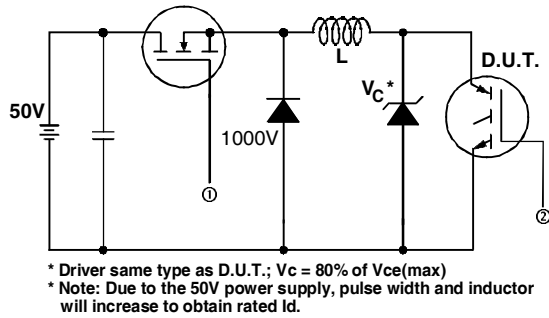

Fig. 13a - Clamped Inductive Load Test Circuit
- ② $V_{CC} = 80\%(V_{CES})$, $V_{GE} = 20V$, $L = 10\mu H$, $R_G = 23\Omega$, (See fig. 13a)
- ③ Repetitive rating; pulse width limited by maximum junction temperature.
④ Pulse width $\leq 80\mu s$; duty factor $\leq 0.1\%$.
⑤ Pulse width $5.0\mu s$, single shot.